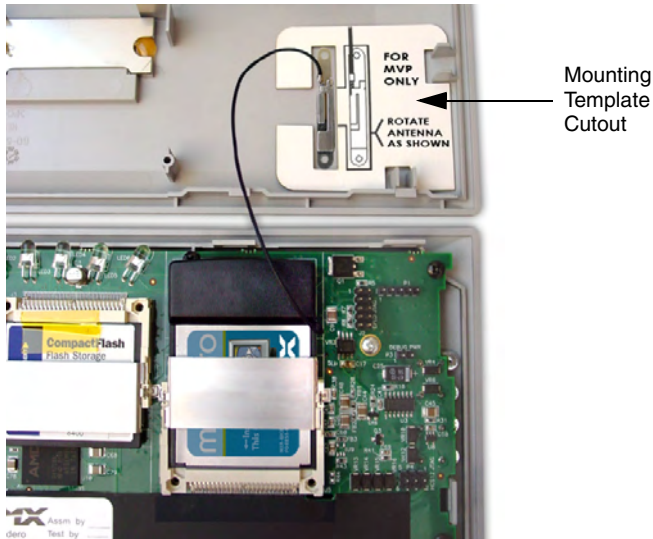

FIG. 4 Adhering the antenna plate to the MVP outer housing
- Locate the T-shaped opening on the left of the cutout and make sure the antenna wire is located along the left side of the cutout (FIG. 4).